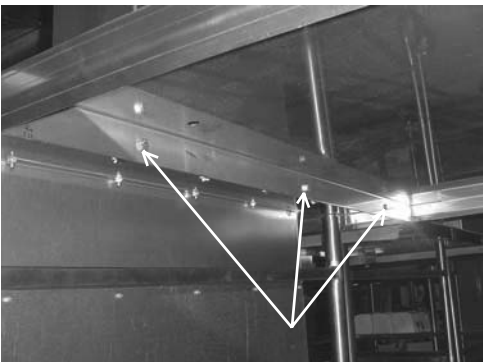

Figure 11
15. Using the hardware provided, fasten the table extension to the HDS-300. Tighten the 3 bolts finger-tight only. Figure 11.